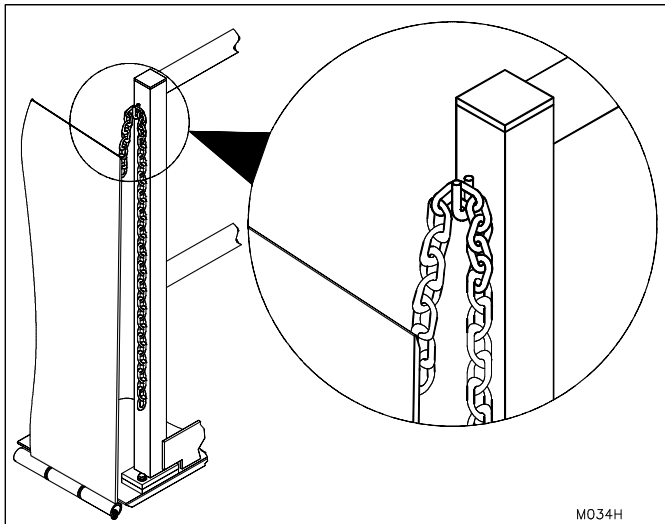
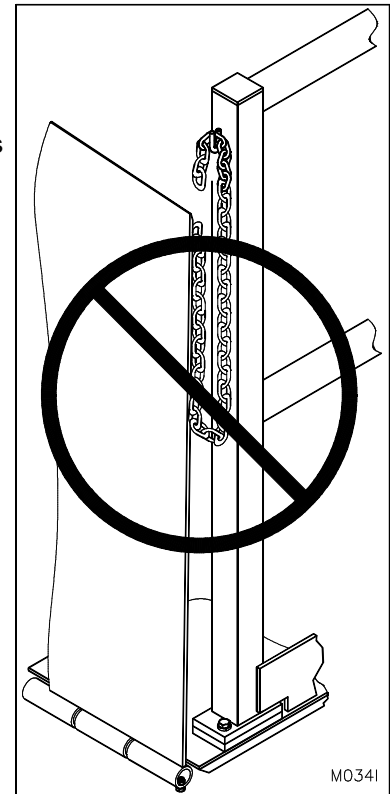

Figure 16: Hinged Bridge in Vertically Stored Position
Figure 15: Hinged Bridge Not Properly Secured (See Figure 16)
7. When not in use, the platform should be in the lowered position with the hinged bridge(s) in an upright vertically stored position with the hinged bridge chain(s) engaged. (See “Figure 16: Hinged Bridge in Vertically Stored Position” on page 31 and “Figure 15: Hinged Bridge Not Properly Secured (See Figure 16)” on page 31).